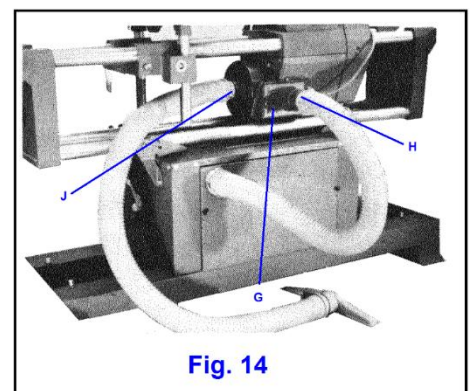

Fig. 14
11. **Connect discharge hose.** Plug other end of hose into impeller outlet duct opening ("G", Fig. 14). On some units the duct has two outlets, one direct and one offset ("H"). The offset opening allows vacuum to be used when carriage is next to headstock. Plug unused hole with push-in plastic cap provided.
12. **Connect vacuum hose.** Plug long hose into impeller housing inlet ("J", Fig. 14) and your machine is ready to run.